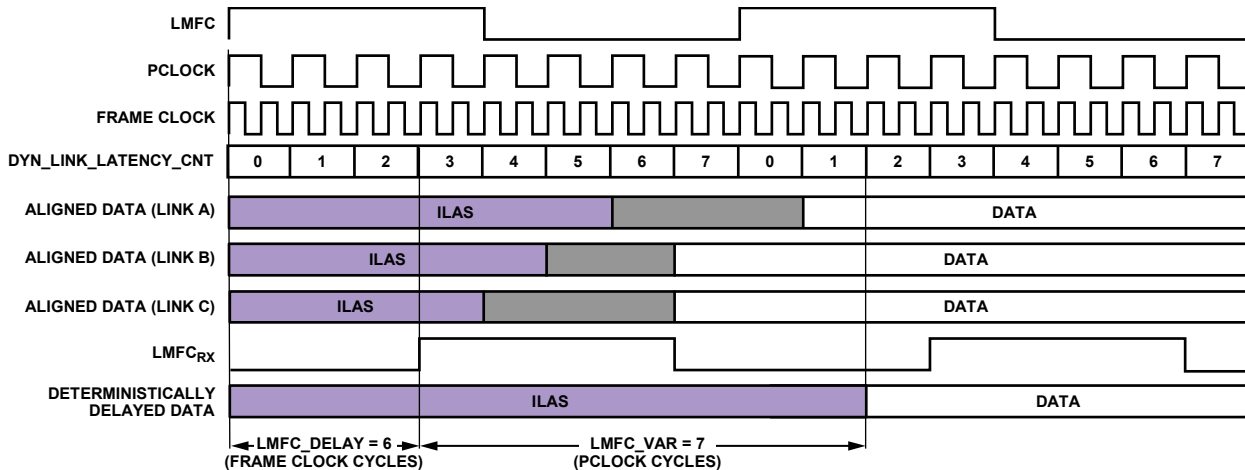

Figure 50. Multilink Synchronization Settings, Derived Method Example
Figure 50 shows how DYN_LINK_LATENCY_x (Register 0x302 and Register 0x303) provides a readback showing the delay (in PClock cycles) between LMFC_{RX} and the transition from ILAS to the first data sample. By repeatedly power-cycling and taking this measurement, the minimum and maximum delays across power cycles can be determined and used to calculate LMFCVar and LMFCDel.
The example shown in Figure 50 is demonstrated in the following steps according to the procedure outlined in the Without Known Delays section. Note that this example is in Subclass 1 to achieve deterministic latency, which has a PClockFactor (FrameClockRate/PClkRate) of 2 and uses K = 16; therefore PClocksPerMF = 8.
1. In Figure 50, for Link A, Link B, and Link C, the system containing the AD9144 (including the transmitter) is power cycled and configured 20 times. The AD9144 is configured as described in the Device Setup Guide. As the point of this exercise is to determine LMFCDel and LMFCVar, the LMFCDel is programmed to 0 and the DYN_LINK_LATENCY_x is read from Register 0x302 and Register 0x303 for Link 0 and Link 1, respectively. The variation in the link latency over the 20 runs is shown in Figure 50 in grey.